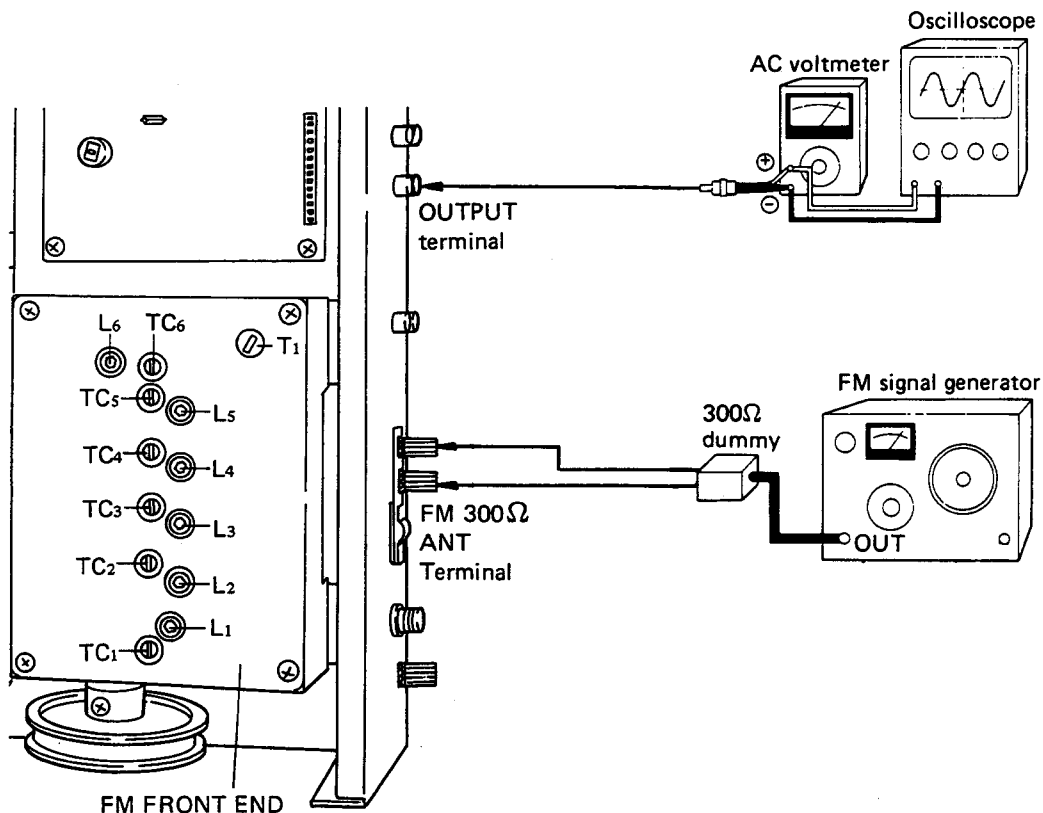

Fig. 36
1. Connect up the various measuring instruments as shown in Fig. 36.